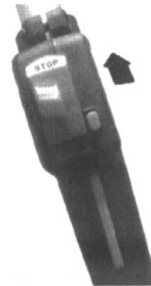

Fig.13
2. Slide the ignition switch to the "0" or STOP position. See Fig.13.